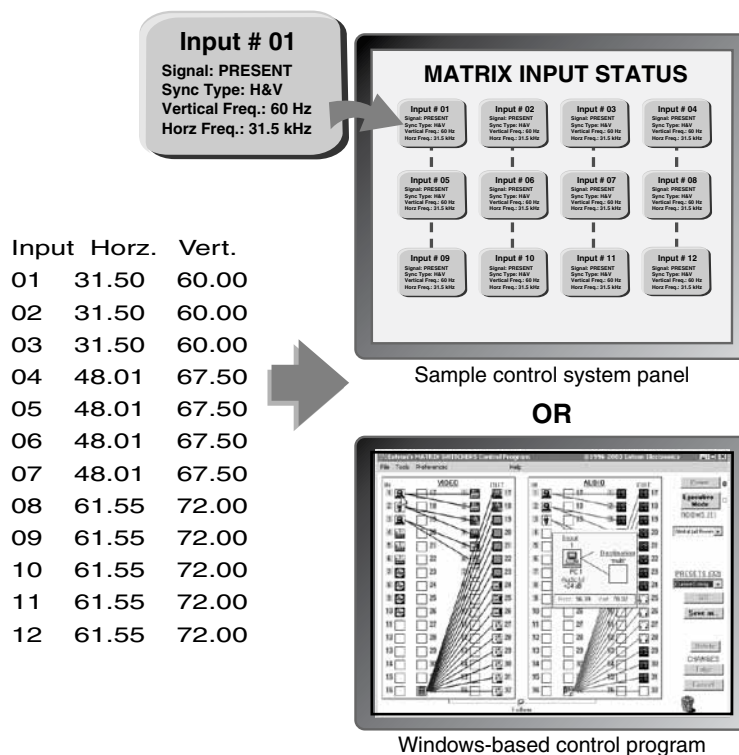

Figure 1-2 — DSVP data display
In critical environments or unmanned remote locations, it may be vital to know that sources are active and switching. The DSVP feature confirms that input sources are active by scanning all sync inputs for active signals. DSVP provides instantaneous frequency feedback for composite sync or separate horizontal and vertical sync signals via the switcher's serial ports or LAN port. The frequency information can be displayed on any control system or in a Windows®-based control program on a local-area network (LAN) or Internet (IP) connection (figure 1-2).